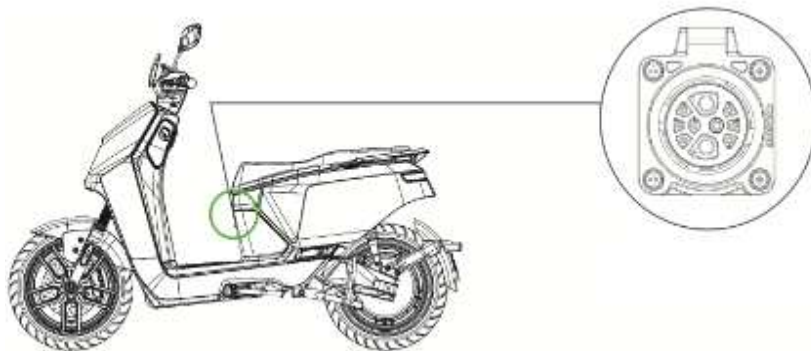

Fig. 11. Location of the charging connector in the vehicle
In figure 11, you can see the location of the charging connector in the vehicle.
1. Open the charging connector cover and insert the charger plug into the vehicle's charging socket. Fig. 11